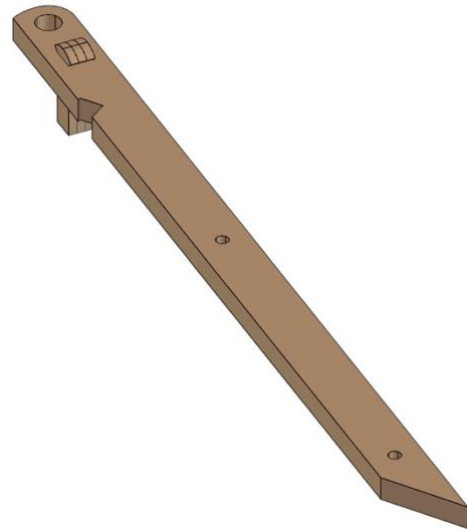

Fig. 46
- *Fig. 46* shows the completed process.